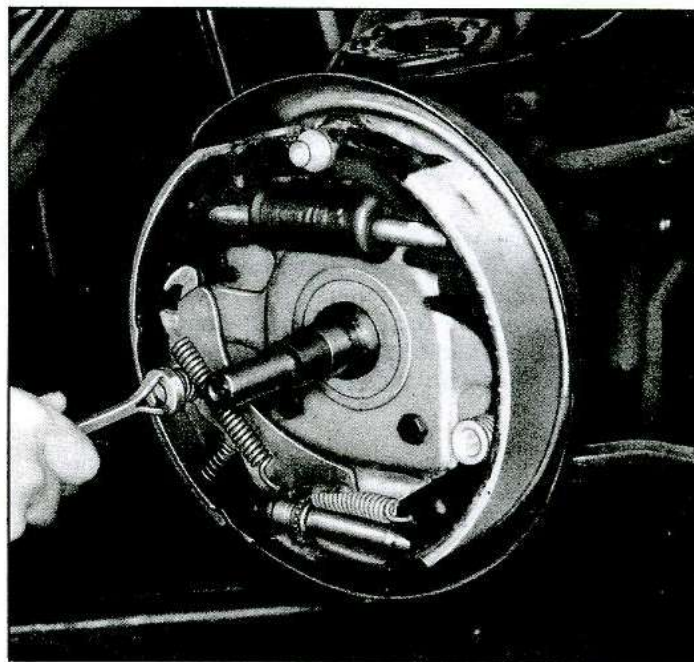

Fig. 19—Removing Hold Down Springs and Pins
7. Remove hold-down pins and springs using a pair of needle nose pliers (fig. 19).